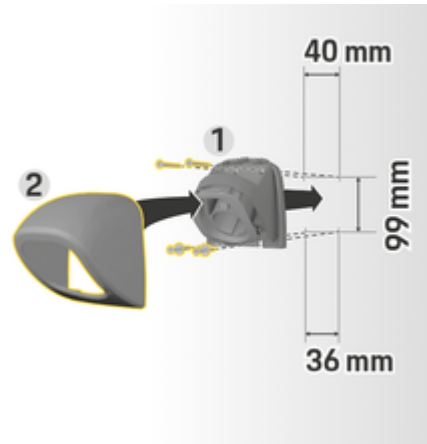

Fig. 5: Drilling dimensions
1. Remove plug holder **1** from the cover (Fig. 5) **2** (Fig. 5).
4. Screw the plug holder **1** (Fig. 5) to the wall.
5. Fit the cover **2** (Fig. 5) onto the plug holder **1** (Fig. 5) from below and press it upwards.